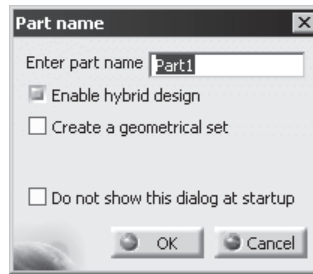

Figure 1-34 The **Part name** dialog box
- Choose **File > Close** from the menu bar; the start screen of CATIA V5 is displayed. Choose **Start > Mechanical Design > Part Design** to make sure that you are in the **Part Design** workbench; the **Part name** dialog box is displayed, as shown in Figure 1-34.